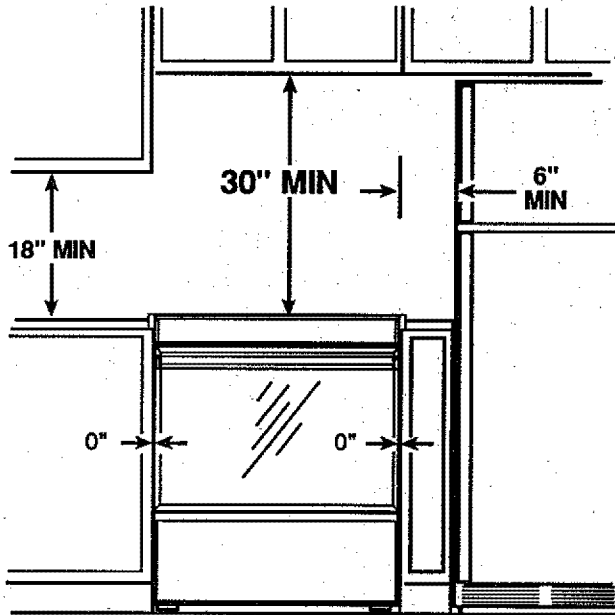

Fig. 1 MINIMUM DIMENSIONS BETWEEN COOKTOP AND CABINETS OR WALLS
- See Figures 1 and 2 for all rough-in and spacing dimensions. These dimensions must be met for safe use of your range. The location of the electrical outlet may be changed as needed, but electricity to the range can be disconnected at the outlet without moving the range if the outlet is in the suggested location (remove lower drawer).